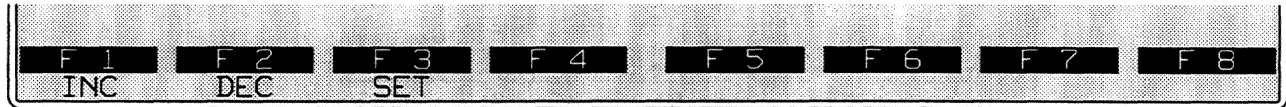

Figure 31-7 Flag actions.
1. *Enter the flag name.* After pressing the softkey for FLAG, or typing FLAG followed by a space, a rack of softkeys appears with the names of flag actions. See Figure 31-7.